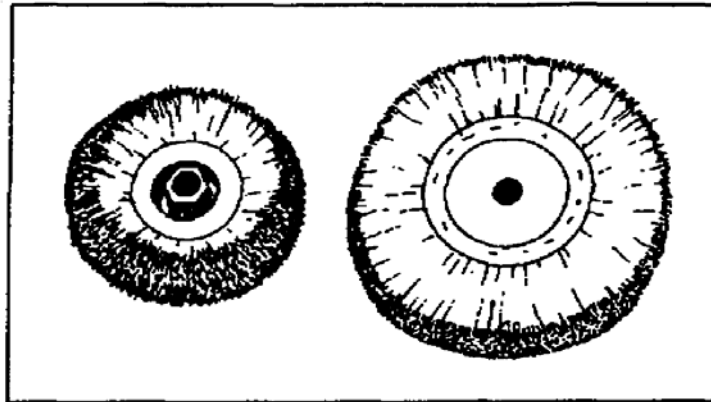

Figure 3-12. Power wire brushes
a. Power Wire Brushes. Use power wire brushes to conserve man-hours in large work areas. Use the brushes to remove paint from wood, masonry, or metal surfaces, and corrosion from metal surfaces. You should use brushes made of fine spring steel. Figure 3-12, page 3-12, shows two wire-brush types that are used on an electric or air motor, a flexible-shaft machine, or in the chuck of an electric drill. They can also be mounted on a